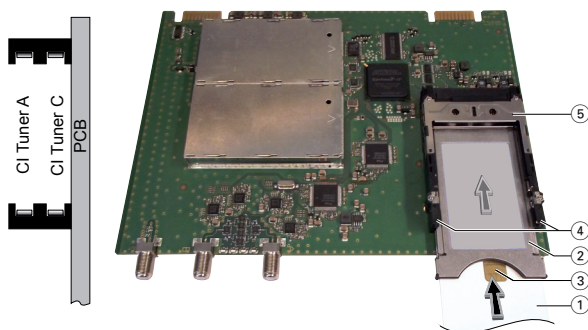

Fig. 1
- Insert the smart card ① into the CA module ② so that the chip ③ on the smart card faces the thicker side (top) of the CA module (fig. 1).
- Push the CA module ② without canting into the guide rails ④ of the common interface ⑤ according to the following picture and contact it to the common interface.